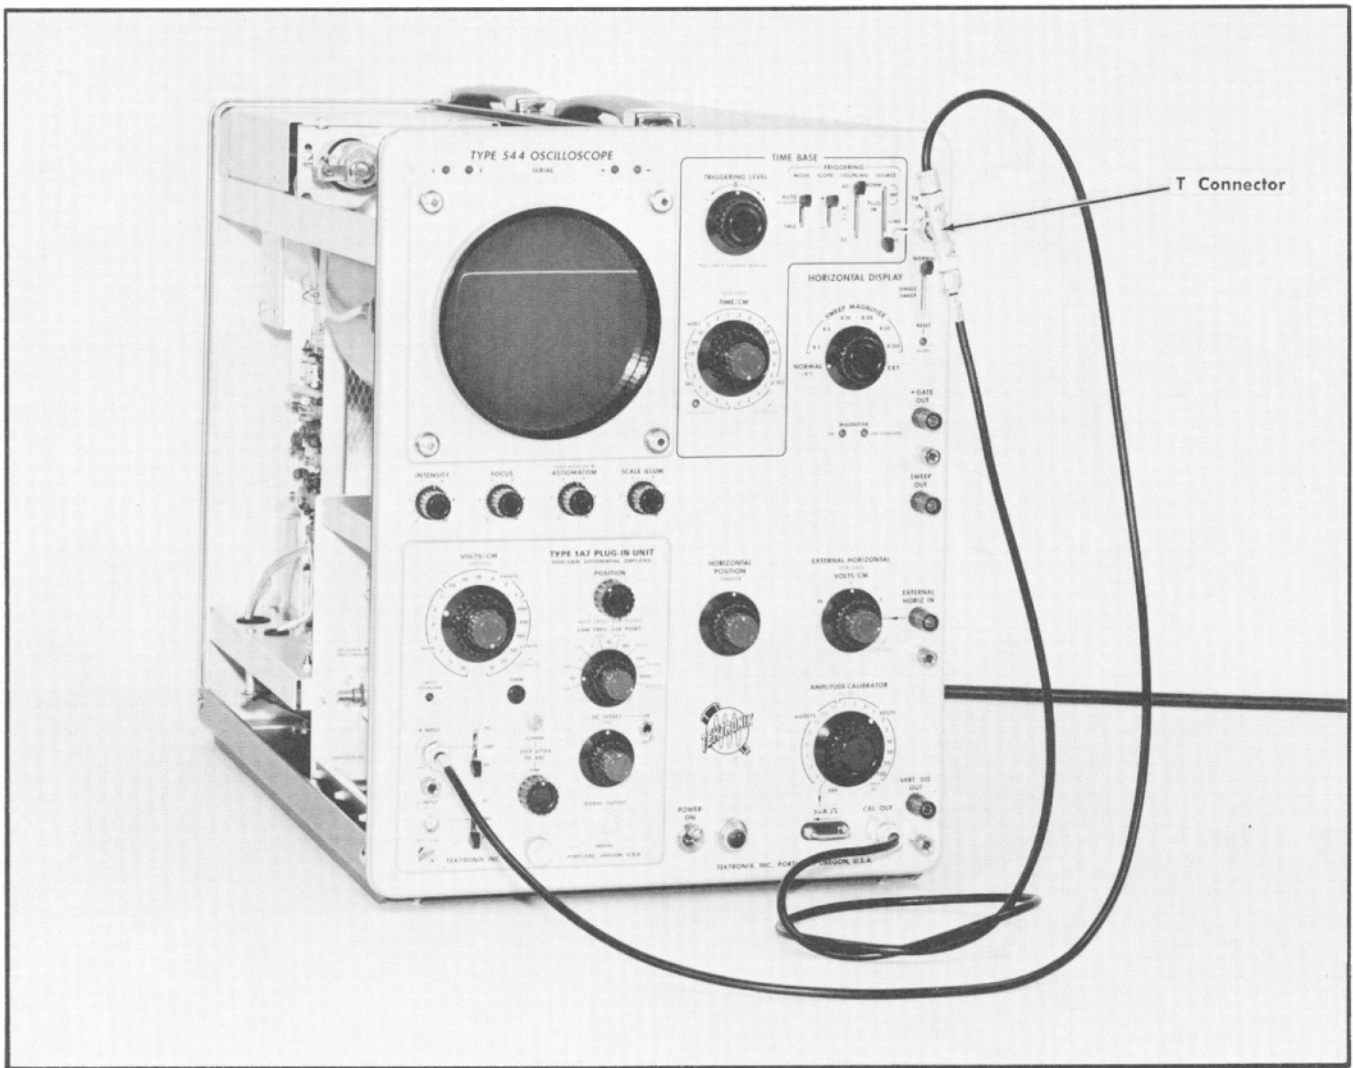

Fig. 6-39. Setup at completion of step 26d.
d. Connect one coaxial cable from the T connector to the oscilloscope Cal Out connector. Connect a second coaxial cable from the T connector to the Type 1A7 +INPUT connector. Fig. 6-39 shows the setup.